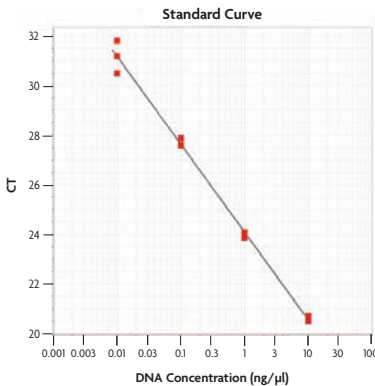

Figure 4: Example standard curve linear regression plot.
4. Plot CT versus log DNA concentration. See Figure 4 below.